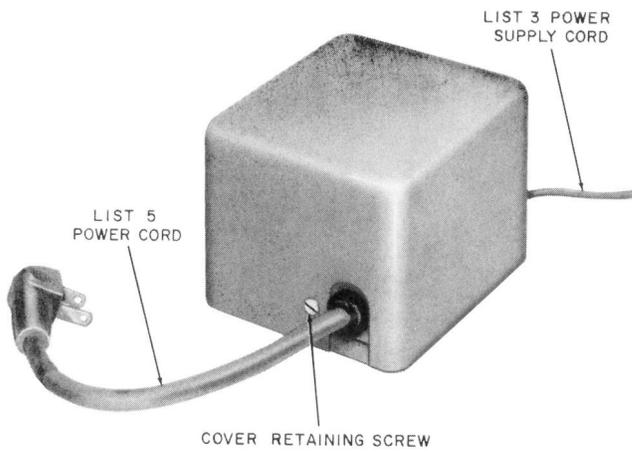

Fig. 3—Power Supply
2.03 Cord connections are required between the telephone set and the *Rapidial* and between the *Rapidial* and the low-voltage power supply. The power supply (List 2) is shown in Fig. 3 and 4.
(2) Carton 2: List 20—Housing ()
(3) Carton 3 (Fig. 3 and 4):
3.07 Power supply may be mounted with three No. 6 or 8 wood screws. Two retaining screws hold cover in position (Fig. 3). Power supply cord is fed through cutout in cover and secured under cord clamp.